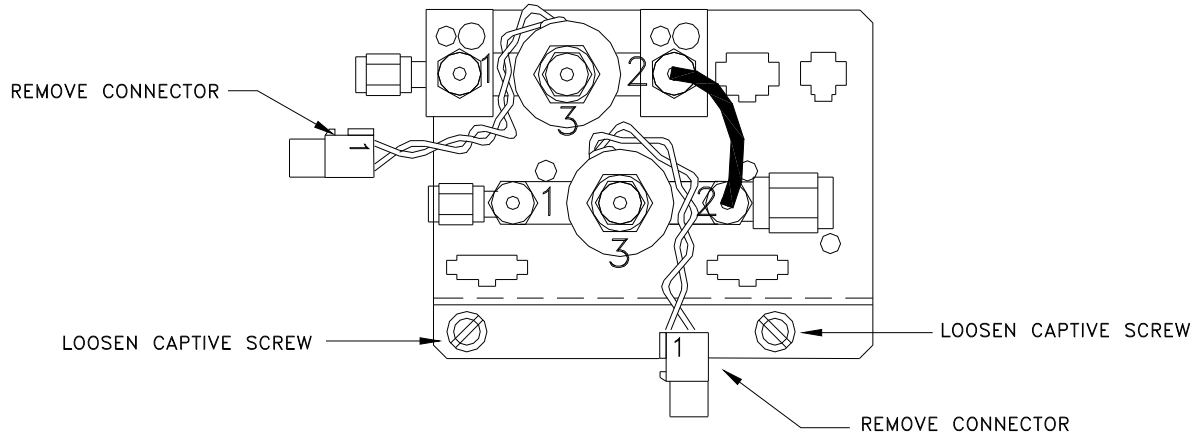

FIGURE 3
5. Loosen the (2) two captive screws of the valve assembly bracket. Figure 3
6. Remove the (2) two power connectors for the valves. Figure 3